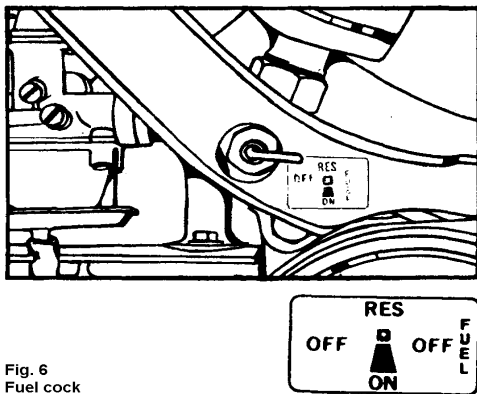
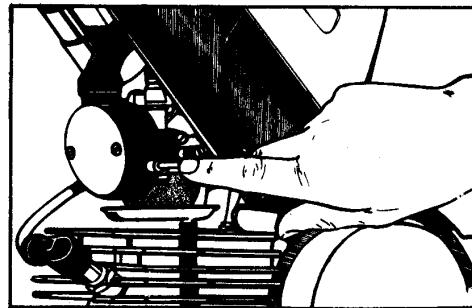

Fig. 6
Fig.7 – Air intake shut – off pushord
- e) Fuel cock lever (Fig. 6,)
- f) Choke (Fig.7)
Open the fuel cock (Fig6) push in the choke pin (Fig.7) as far as it will go the pin returns immediately into its original position but the air intake remains throttled – the engine is supplied with a richer mixture.
If you have to slow down, release the twist grip and apply the brakes by pulling the brake levers (2.3 -Fig.2). Proceed in the same way to stop the moped. The reduction of engine speed results in the disengagement of the driving clutch, and the engine runs at idling speed. To continue the ride, just accelerate (turn the twist grip). The driving clutch engages and the moped starts moving. At the end of the trip stop the engine by depressing kill switch push button and shut off the fuel supply by turning the lever of the fuel cock (Fig. 6)